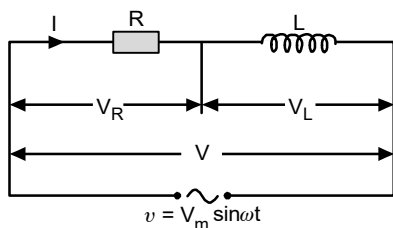

Fig. 2.27: R-L series circuit
An R - L series circuit contains resistance (R) and inductance (L) connected in series as shown in fig 2.27